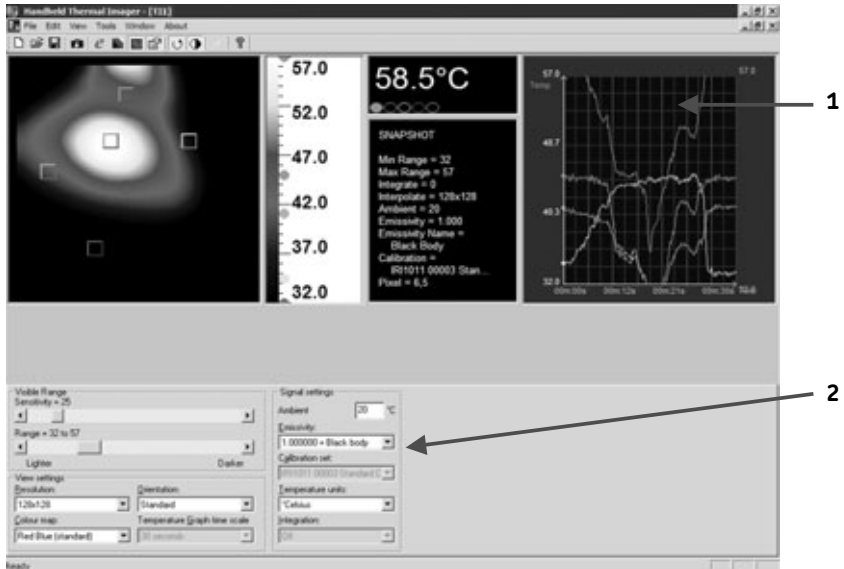

Figure 10: Image display, control panel and temperature graph.
- The displayed window layout with temperature graph will look like **Figure 10**.
Temperature measurement cursors can be added (and removed) from the image by “double clicking” the mouse cursor over the desired part of the image. Up to 10 cursors can be selected and each one is displayed in a different colour. To read the temperature of a cursor, use the mouse to click on the corresponding oval colour as displayed in the “temperature display window”, see **Figure 10**. The temperature graph plots will also be displayed in the same colour as the selected cursors.